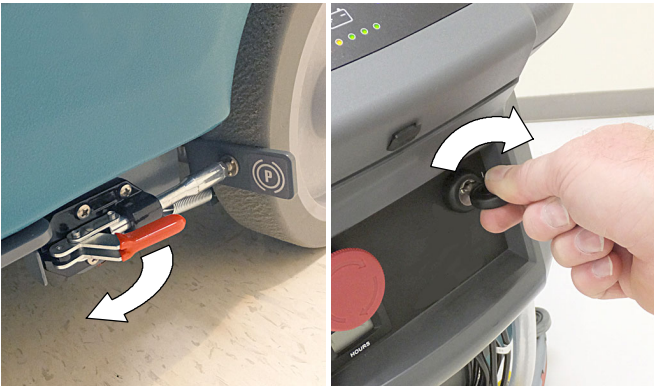

FIG. 35
1. Release the parking brake lever, if equipped (Figure 35)
2. Turn the key to the on (I) position (Figure 35).